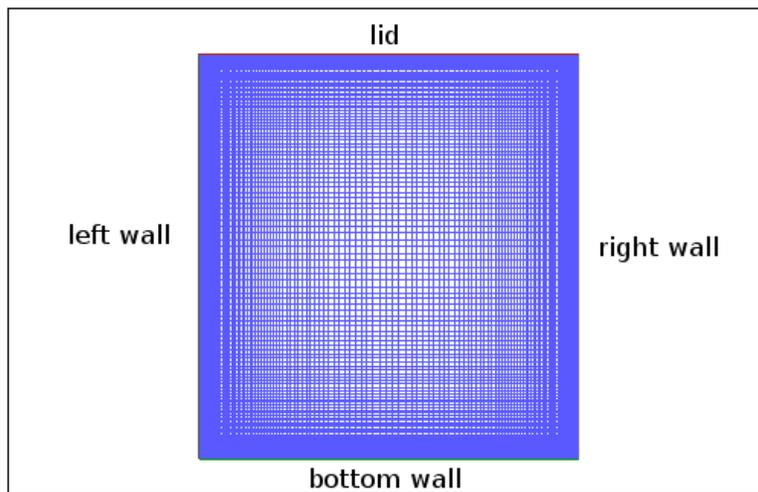

Figure 1.2: Grid Display
4. Display the grid (Figure 1.2).